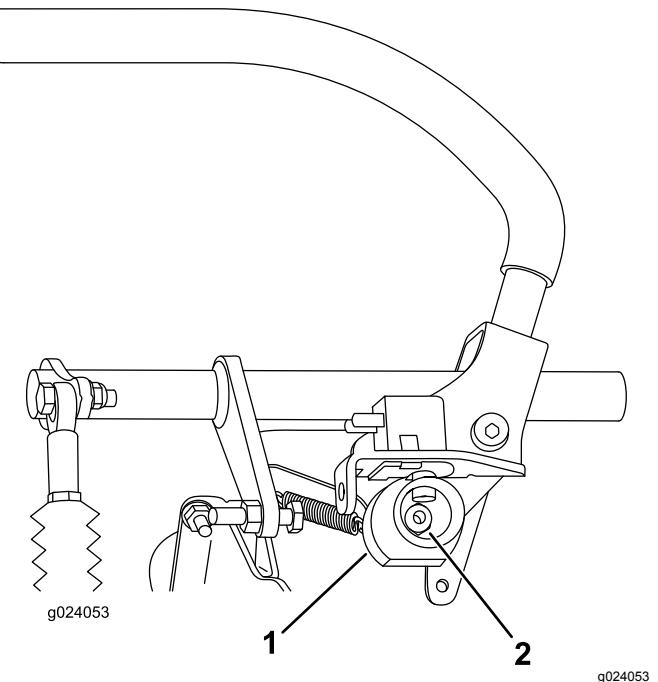

Figure 67
6. Loosen the nut holding the cam (Figure 67).